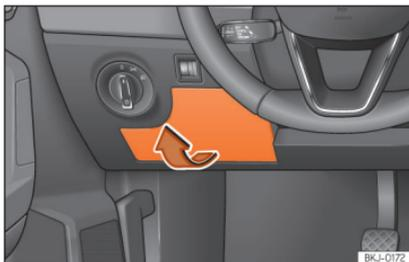

Fig. 51 On the driver's side dashboard: fuse box cover.
- Open: remove the fuse box cover in the direction indicated »» Fig. 51.